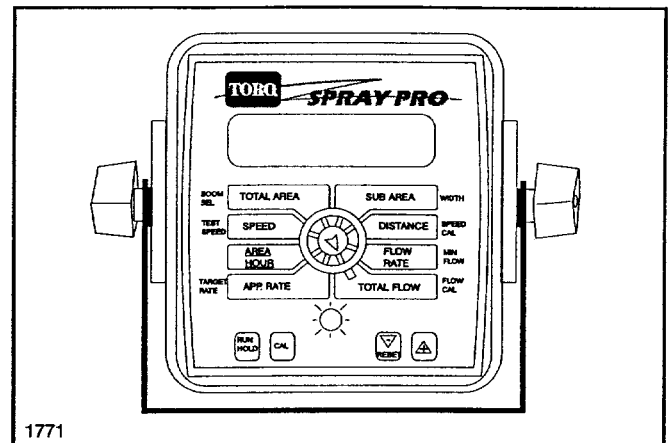

FIG. 3
5. Turn off booms and compare the console's TOTAL FLOW reading with the known amount of water run. (See FIG. 3) If the two amounts are the same, no fine tuning is required. If the two amounts are different, continue with the next step.